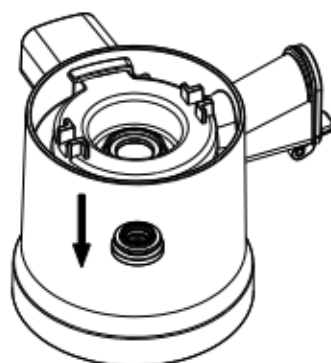

Fig 13c
- The flat side of the seal ring should face inward, with the small ribbed side facing outward. (Fig 13c)